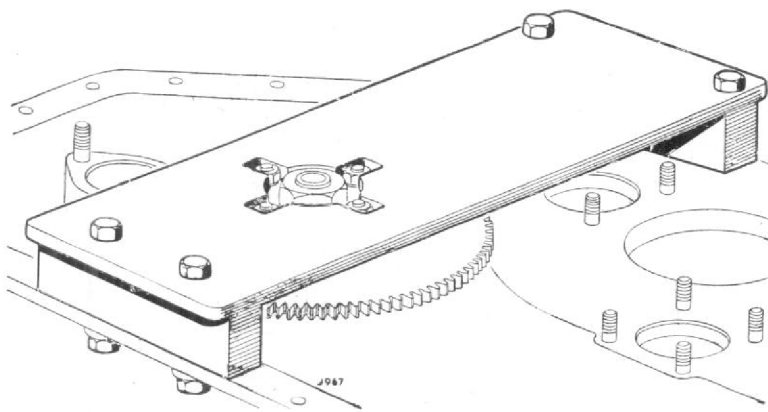

Fig. 5. Tachometer drive gear locking plate T.75555.
1. Assemble locking plate T.75555 to the wheelcase with its cruciform slots located over the four nuts of the tachometer gear (26 and 33) and secure it in position with the four special bolts and nuts, Fig. 5.